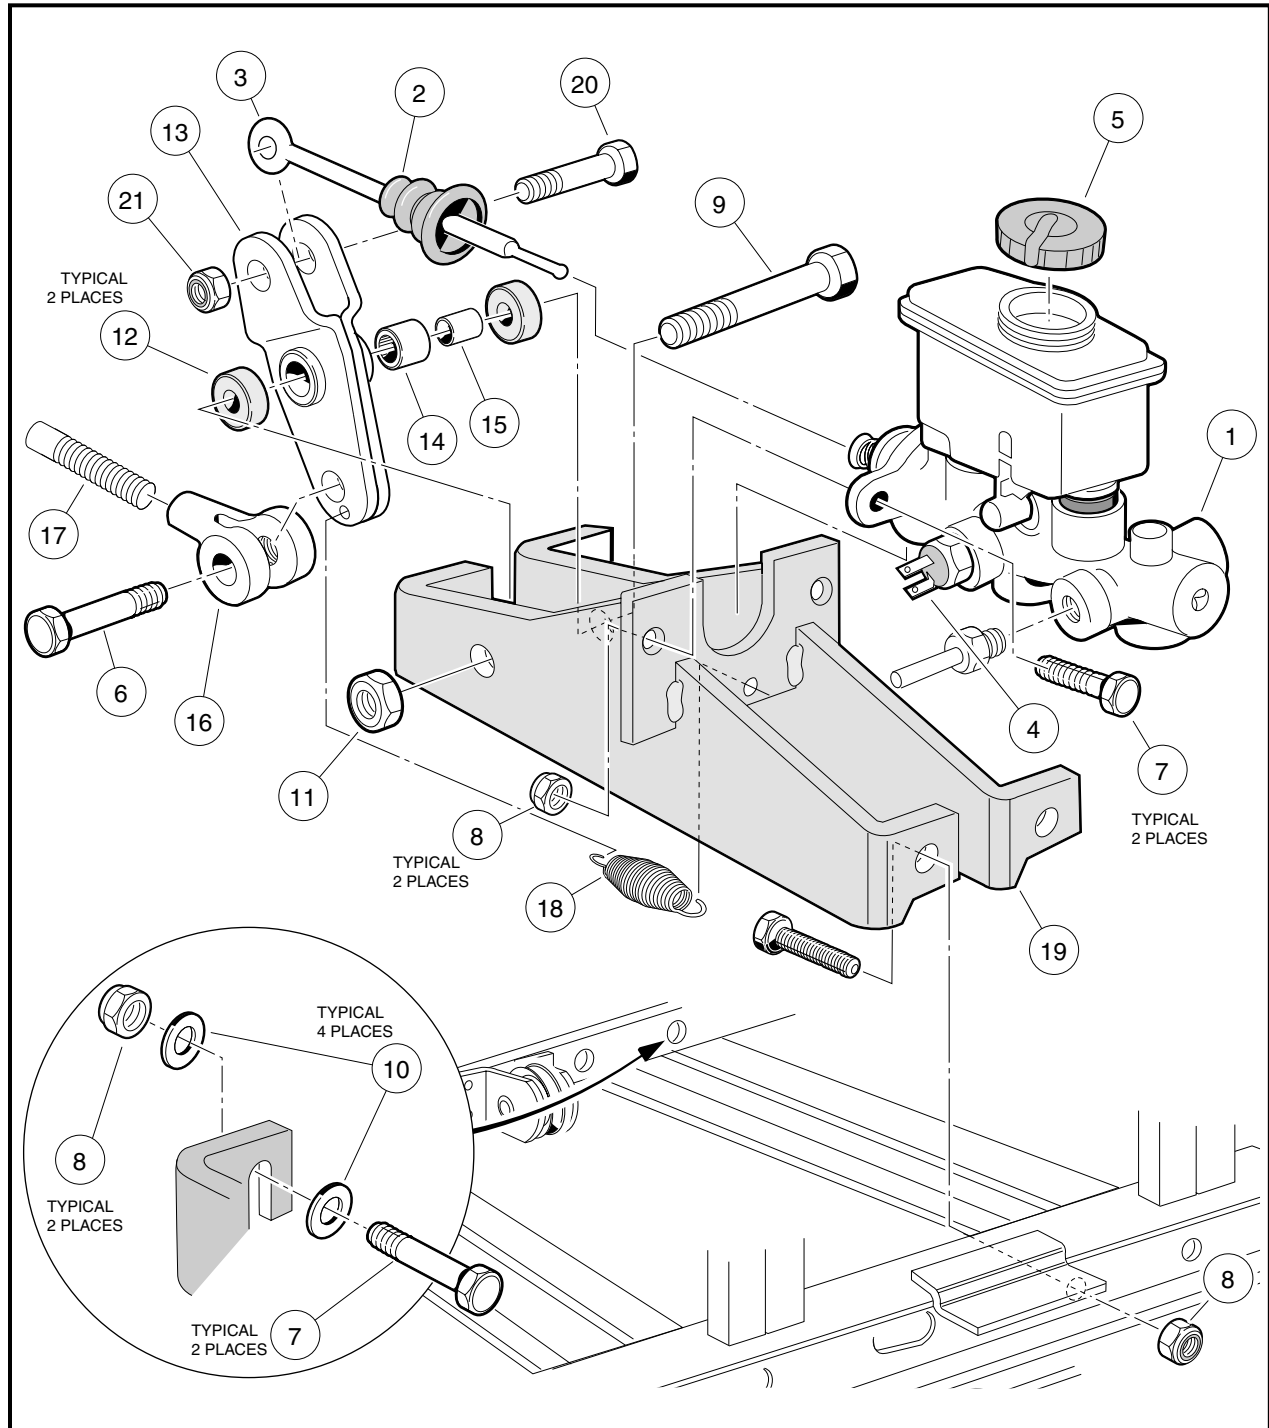

Figure 6b-23 Master Cylinder
- **Front Brakes Only:** Connect the two hose fittings from a vacuum type brake bleeder to the brake bleeder valves on the back of each of the front wheel brake cluster assemblies (**Figure 6b-24, Page 6b-35**). Proceed to step 7.
9. With the vacuum running, open both of the brake bleeder valves 1/4 turn. **See Figure 6b-3, Page 6b-4 or Figure 6b-21, Page 6b-25.**